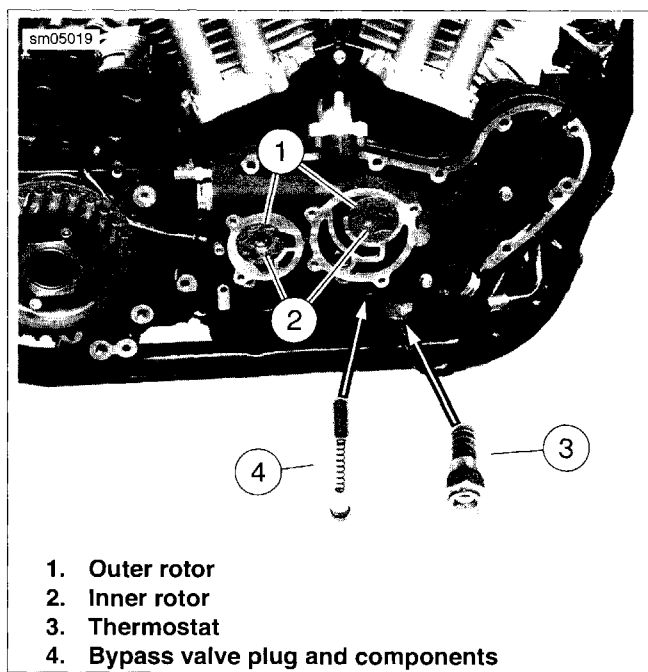

Figure 3-171. Oil Pump: XR Models
7. See Figure 3-171. Wipe the oil film from the exposed surfaces of the rotors (1, 2) and mark each rotor using a permanent marker to aid in reassembly.
3. See Figure 3-171. Install bypass valve components (4). Tighten plug to 108-156 **in-lbs** (12.2-17.6 Nm).
4. Install thermostat and oil cooler line fitting (3).